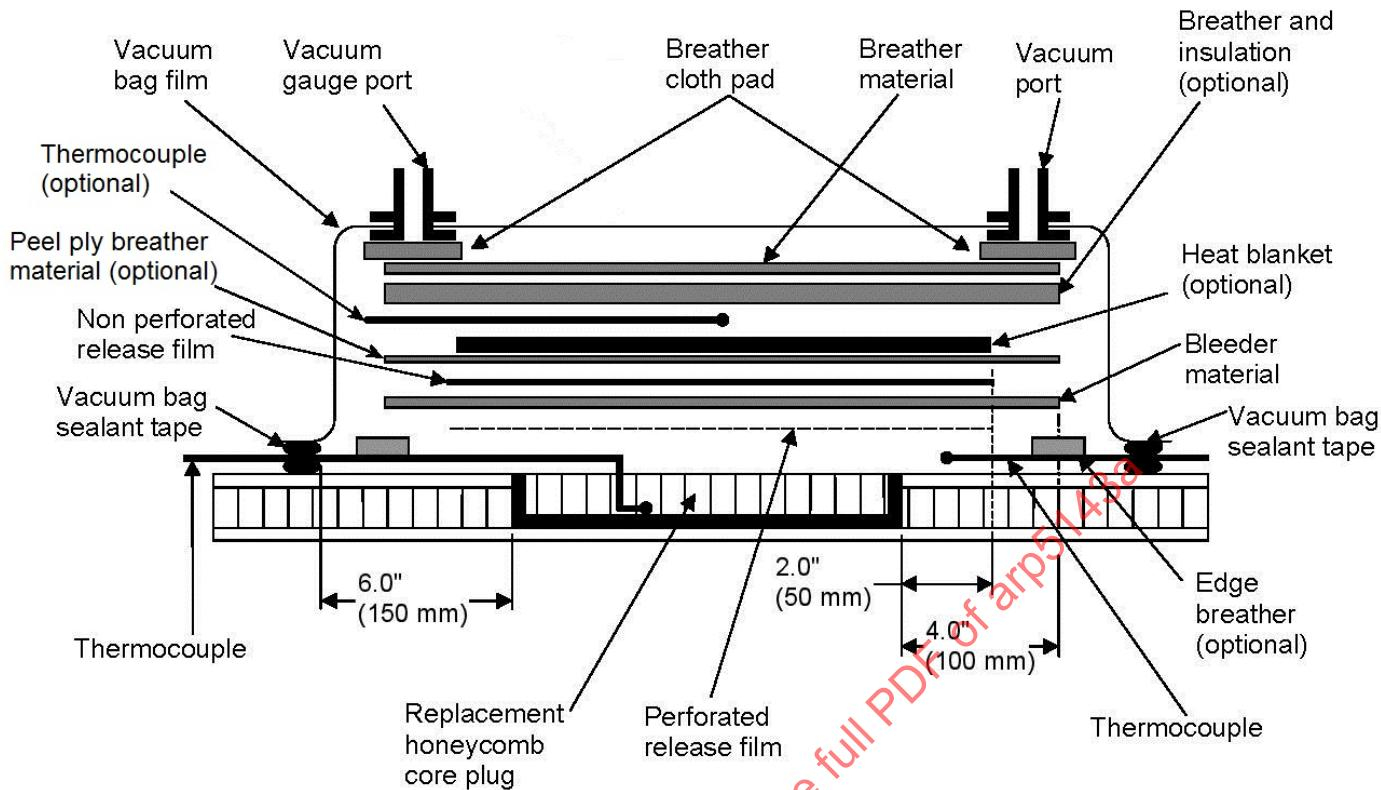

Figure 12 - Method 4 -core restoration method vacuum bag for access on one side only
8.4 Method 4 - Core Restoration (see Figure 12).